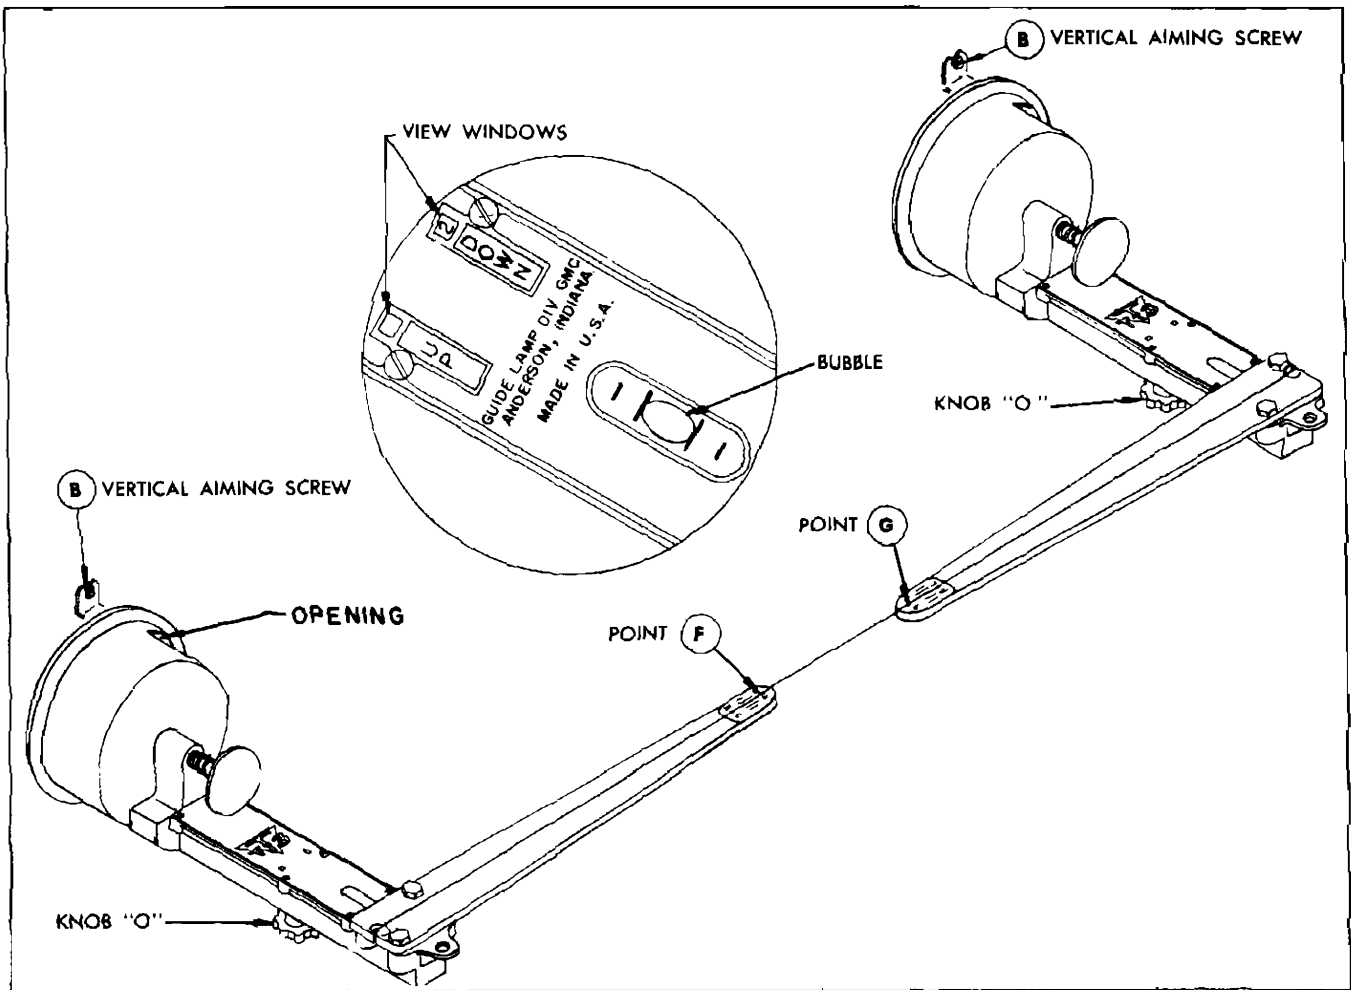

Fig. 11-122 Vertical Aim Adjustment
a. Loosen knob "O" (Fig. 11-122) and move slider until numeral "2" appears in DOWN view window. Tighten knob.